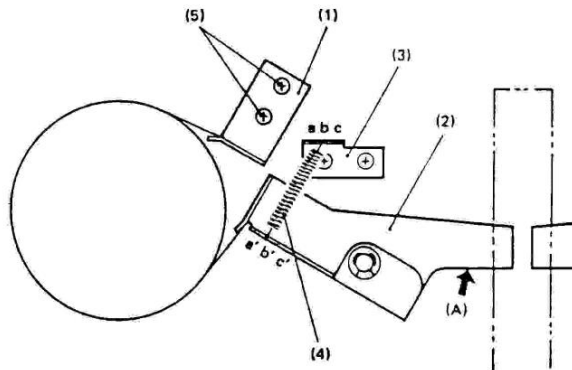

Fig. 5.4
- b) Loosen the two screws (5) of the Brake Band Bracket (1), Fig. 5.4, move Lever (17) 3mm upward so that Slide Lever (13) is also shifted upward, then with the brake band touching the drum, move the Brake Band Bracket (1) until the protrusion on Slide Lever (13) just touches the Brake Lever (14). Then, tighten the previously loosened two screws (5).